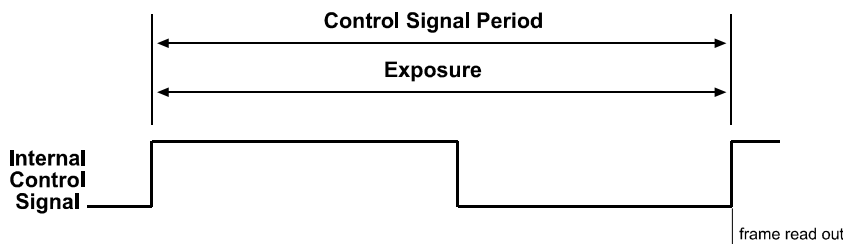

Figure 3-6: Free-run Edge-controlled Mode
- In **free-run edge-controlled mode**, the camera generates a continuous internal control signal based on the "Frame Period" parameter. The pixels are exposed and charge is accumulated over the full period of the internal control signal (rising edge to rising edge). The falling edge of the control signal is irrelevant. The frame is read out and transferred on the rising edge of the internal control signal (see Figure 3-6).